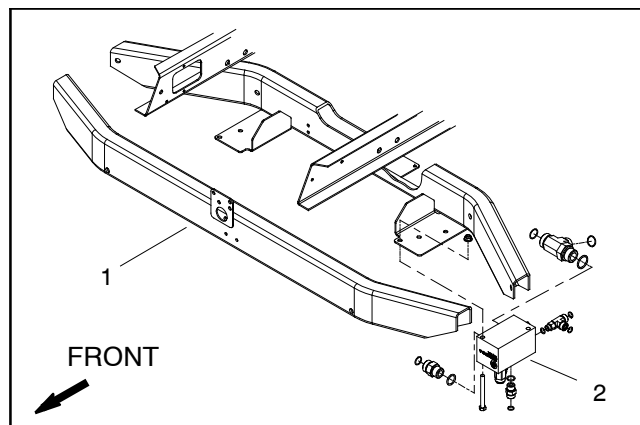

Figure 43
1. Make sure hydraulic oil is at normal operating temperature by operating the machine for approximately ten (10) minutes. Make sure the hydraulic reservoir is full.
**NOTE:** This test uses the same pressure gauge position as used to measure traction circuit pressure reducing valve (PR) pressure.
3. Locate rear traction manifold that is attached to the front frame next to the left side front wheel (Fig. 43). Remove #6 zero leak plug on inside of rear traction manifold and install diagnostic fitting (Toro part number 59-7410) into manifold port.
6. Measure and record reverse traction circuit reducing valve (PR) pressure (see Reverse Traction Circuit Reducing Valve (PR) Pressure Test in this section).
7. Operate the machine in LOW speed (mow) with the cutting decks lowered. Drive down a slope in a forward direction, decrease pressure on the traction pedal and monitor the pressure gauge. Pressure should increase until the rear traction circuit relief valve (RV) lifts.